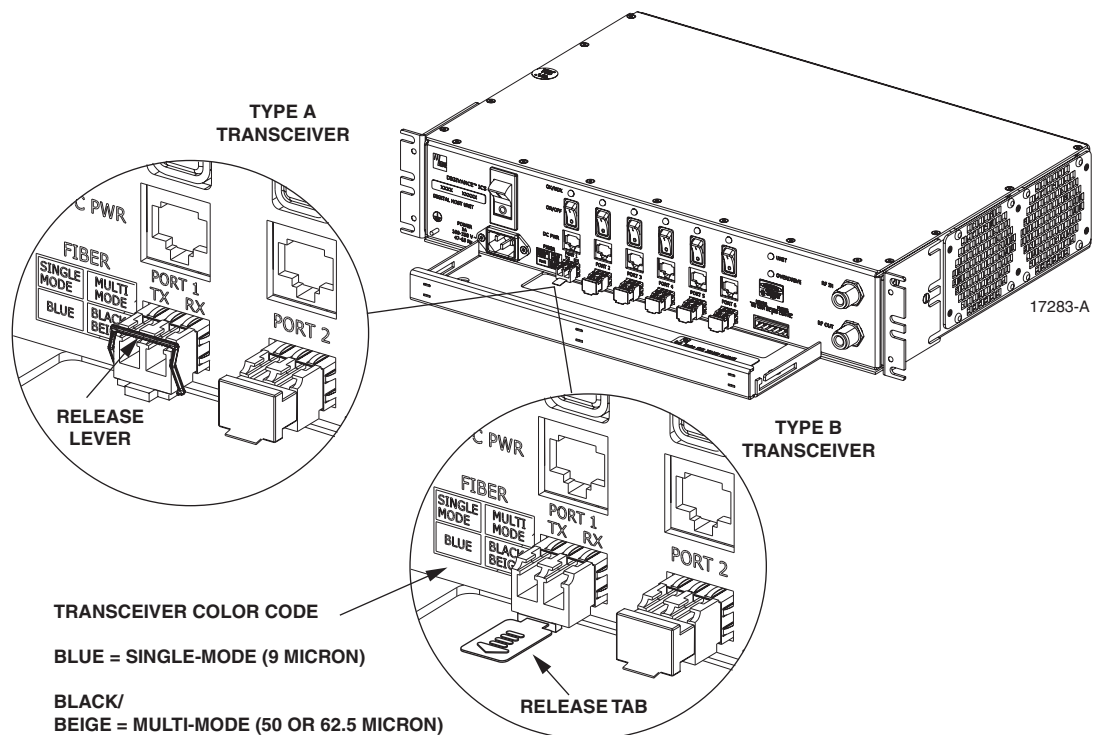

Figure 32. DHU or DEU Optical Transceiver Removal
- 5. Release the optical transceiver from the transceiver socket by pulling outward on the release lever (if type A) or release tab (if type B) as shown in Figure 32.
- 7. For replacement, select an optical transceiver that corresponds to the type of fiber (single- or multi-mode) used in the installation. The color of the transceiver corresponds to the transceiver fiber type (see Figure 32).